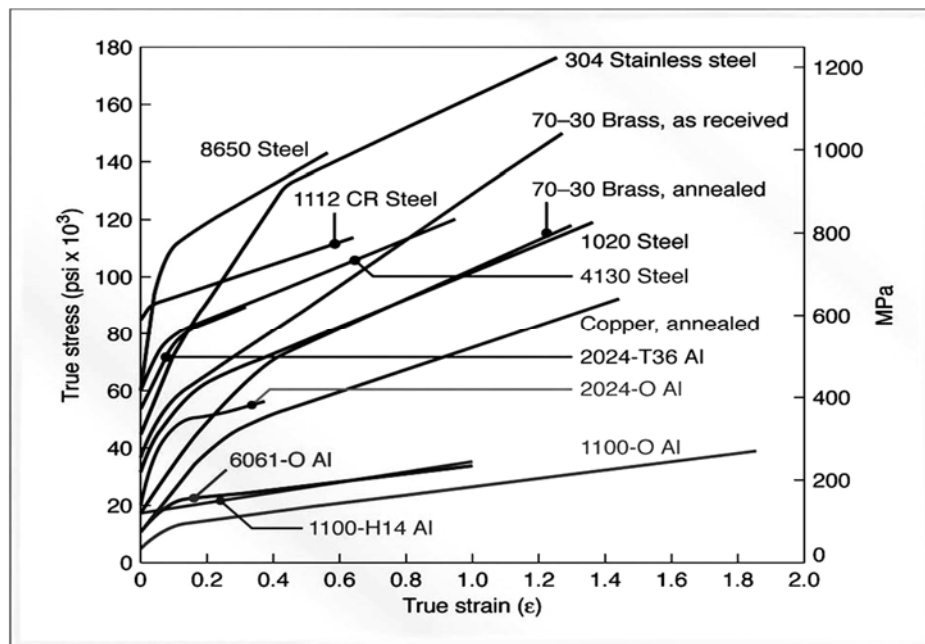

Figure Q6[b]
- [b] An annealed copper strip, 200 mm wide and 20 mm thick is rolled to a thickness of 10 mm in one pass. The roll radius is 300 mm and the rolls rotate at 100 rpm. Calculate the roll force required in this operation. Value of true stresses can be obtained from Figure Q6[b].